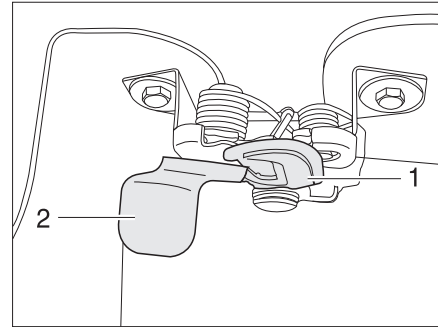

Fig. 29 Release knob on the outside of the bonnet
- Reach under the bonnet with one hand and actuate the safety hook (Fig. 29,1). Do this by reaching behind the plate (Fig. 29,2) and pulling it forward.